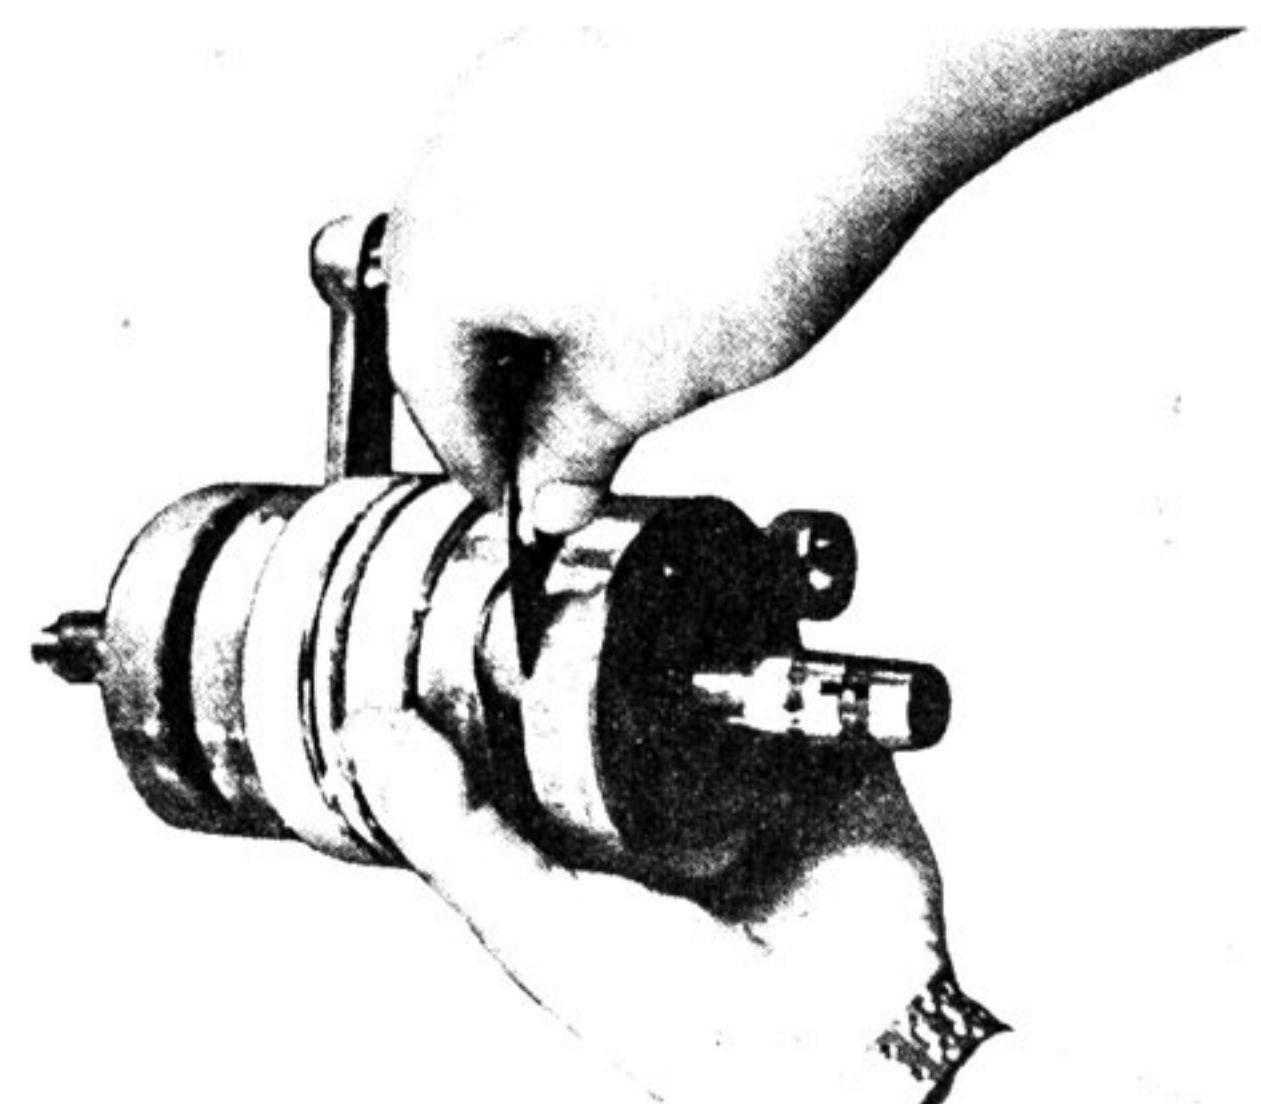

Fig. 4-17-23
(2) Checking the Connection Rod for Large End Side Play. (Fig. 4-17-23)